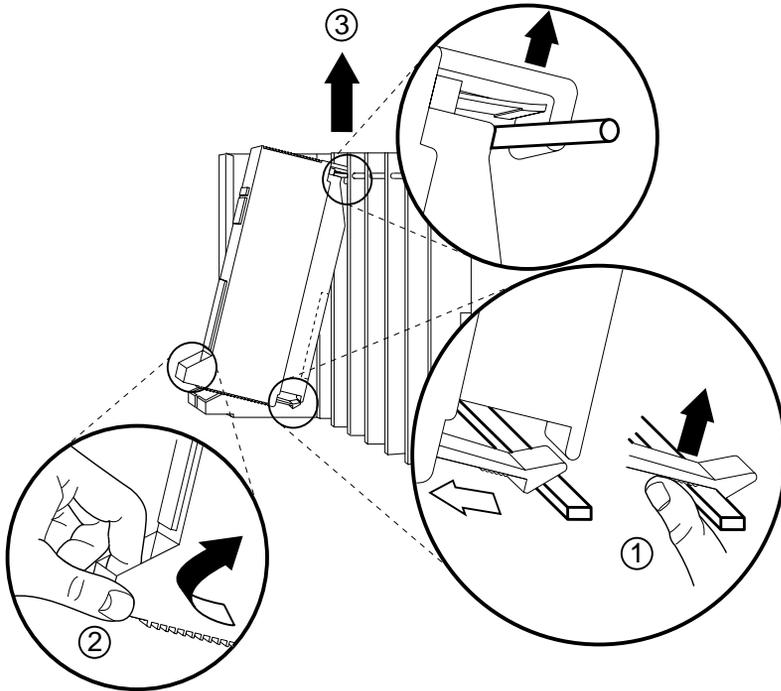

Figure 9-3. Removing a Module from the Carrier
If you are installing an expansion carrier, remove the rightmost module from the control unit and set it aside. See Figure 9-3.
- ▶ 3. Remove the processor module from the carrier. See Figure 9-3.